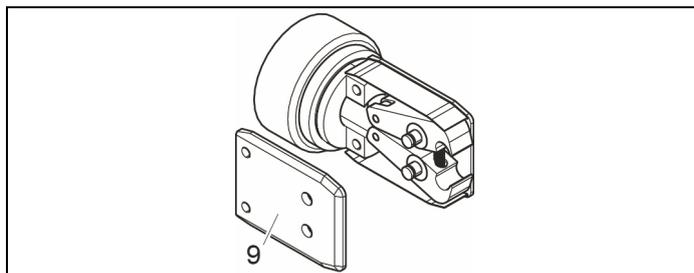

Fig. 27: Removing the side plate
6. Remove side plate (Fig. 27/9).